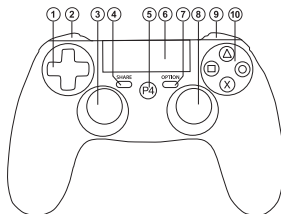

Fig. 1
7. DESCRIPTION OF CONSTRUCTION (Fig. 1)
- ① D PAD
- ② L1, L2
- ③ LS (L3)
- ④ SHARE
- ⑤ HOME (PS)
- ⑥ Touchpad
- ⑦ OPTION
- ⑧ RS (R3)
- ⑨ R1, R2
- ⑩ Δ, ○, X, □